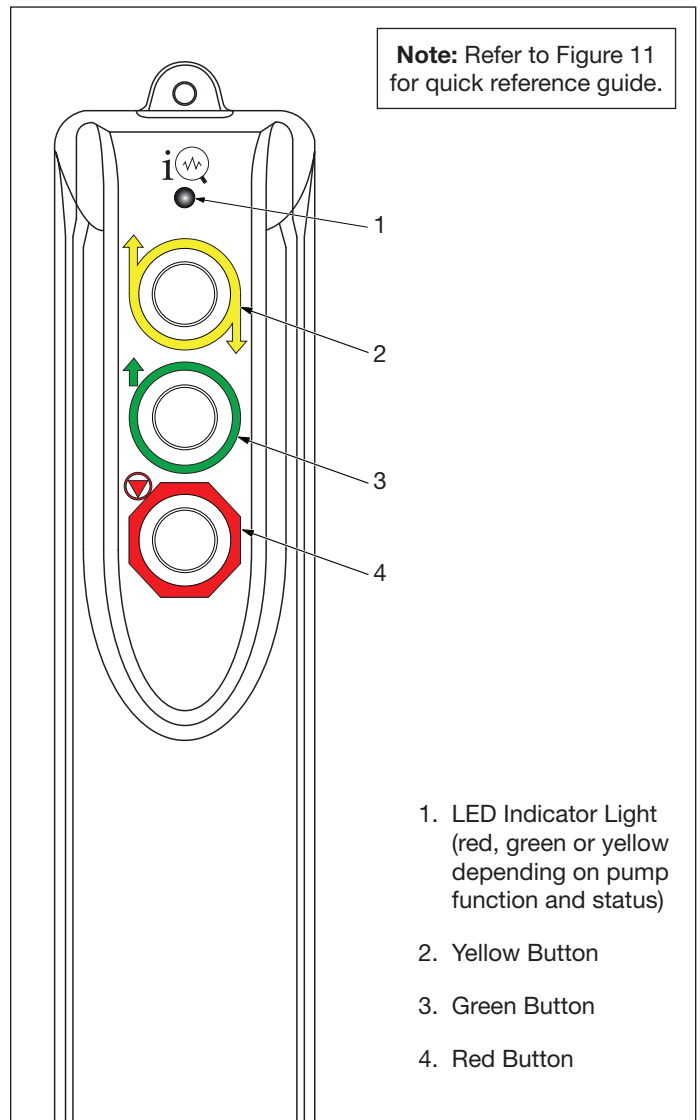

Figure 4, Pendant Controls
A multi-color LED indicator light communicates pump status. See Figure 4. Pendant operation is described in detail in Sections 8.0 through 10.0 of this manual.
1. Press and hold the red pendant button. Refer to Figure 4.